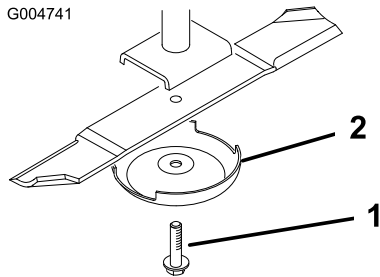

Figure 91
2. Grasp the end of the blade using a rag or thickly padded glove. Remove the blade bolt, anti-scalp cup, and blade from the spindle shaft (Figure 91).